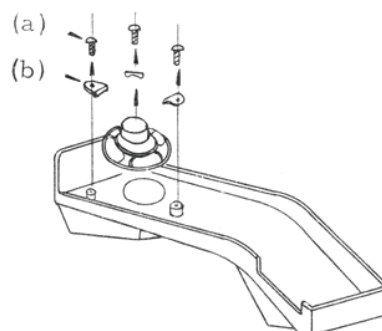

Fig. 12-2
- (2) take off three speaker clamps (b) and pull out speaker as shown in Fig. 12-2.